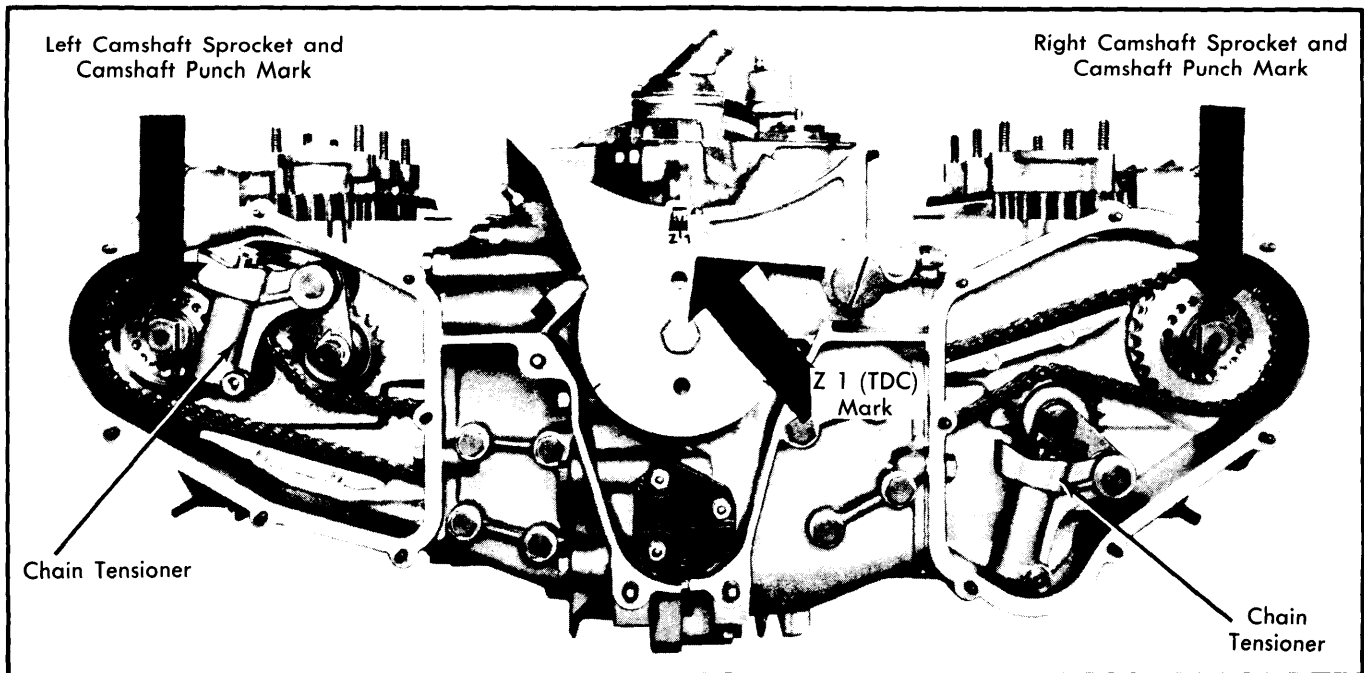

Fig. 7 View of Engine from Blower End (Rear of Car) Showing Valve Timing Marks
1) Rotate crankshaft until mark "Z 1" on crankshaft pulley aligns with mark on crankcase. Use suitable tool (P 202) to rotate camshaft until dot on end of shaft is on top of camshaft vertical centerline. See Fig. 7. Find hole in camshaft sprocket which exactly lines up with camshaft flange and insert dowel pin. Install lock washer and nut.